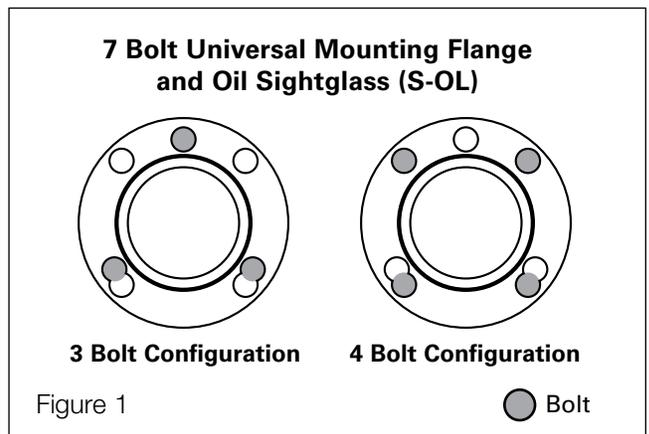

Figure 1
2. See Figure 1, 7 Bolt Universal Mounting Flange and Oil Sightglass (S-OL). Note that the bolt holes for the 3 bolt mounting configuration are not equally spaced. Furthermore, the holes in the Oil Level Control flange are slightly oversized to permit a minor adjustment when leveling. During installation,